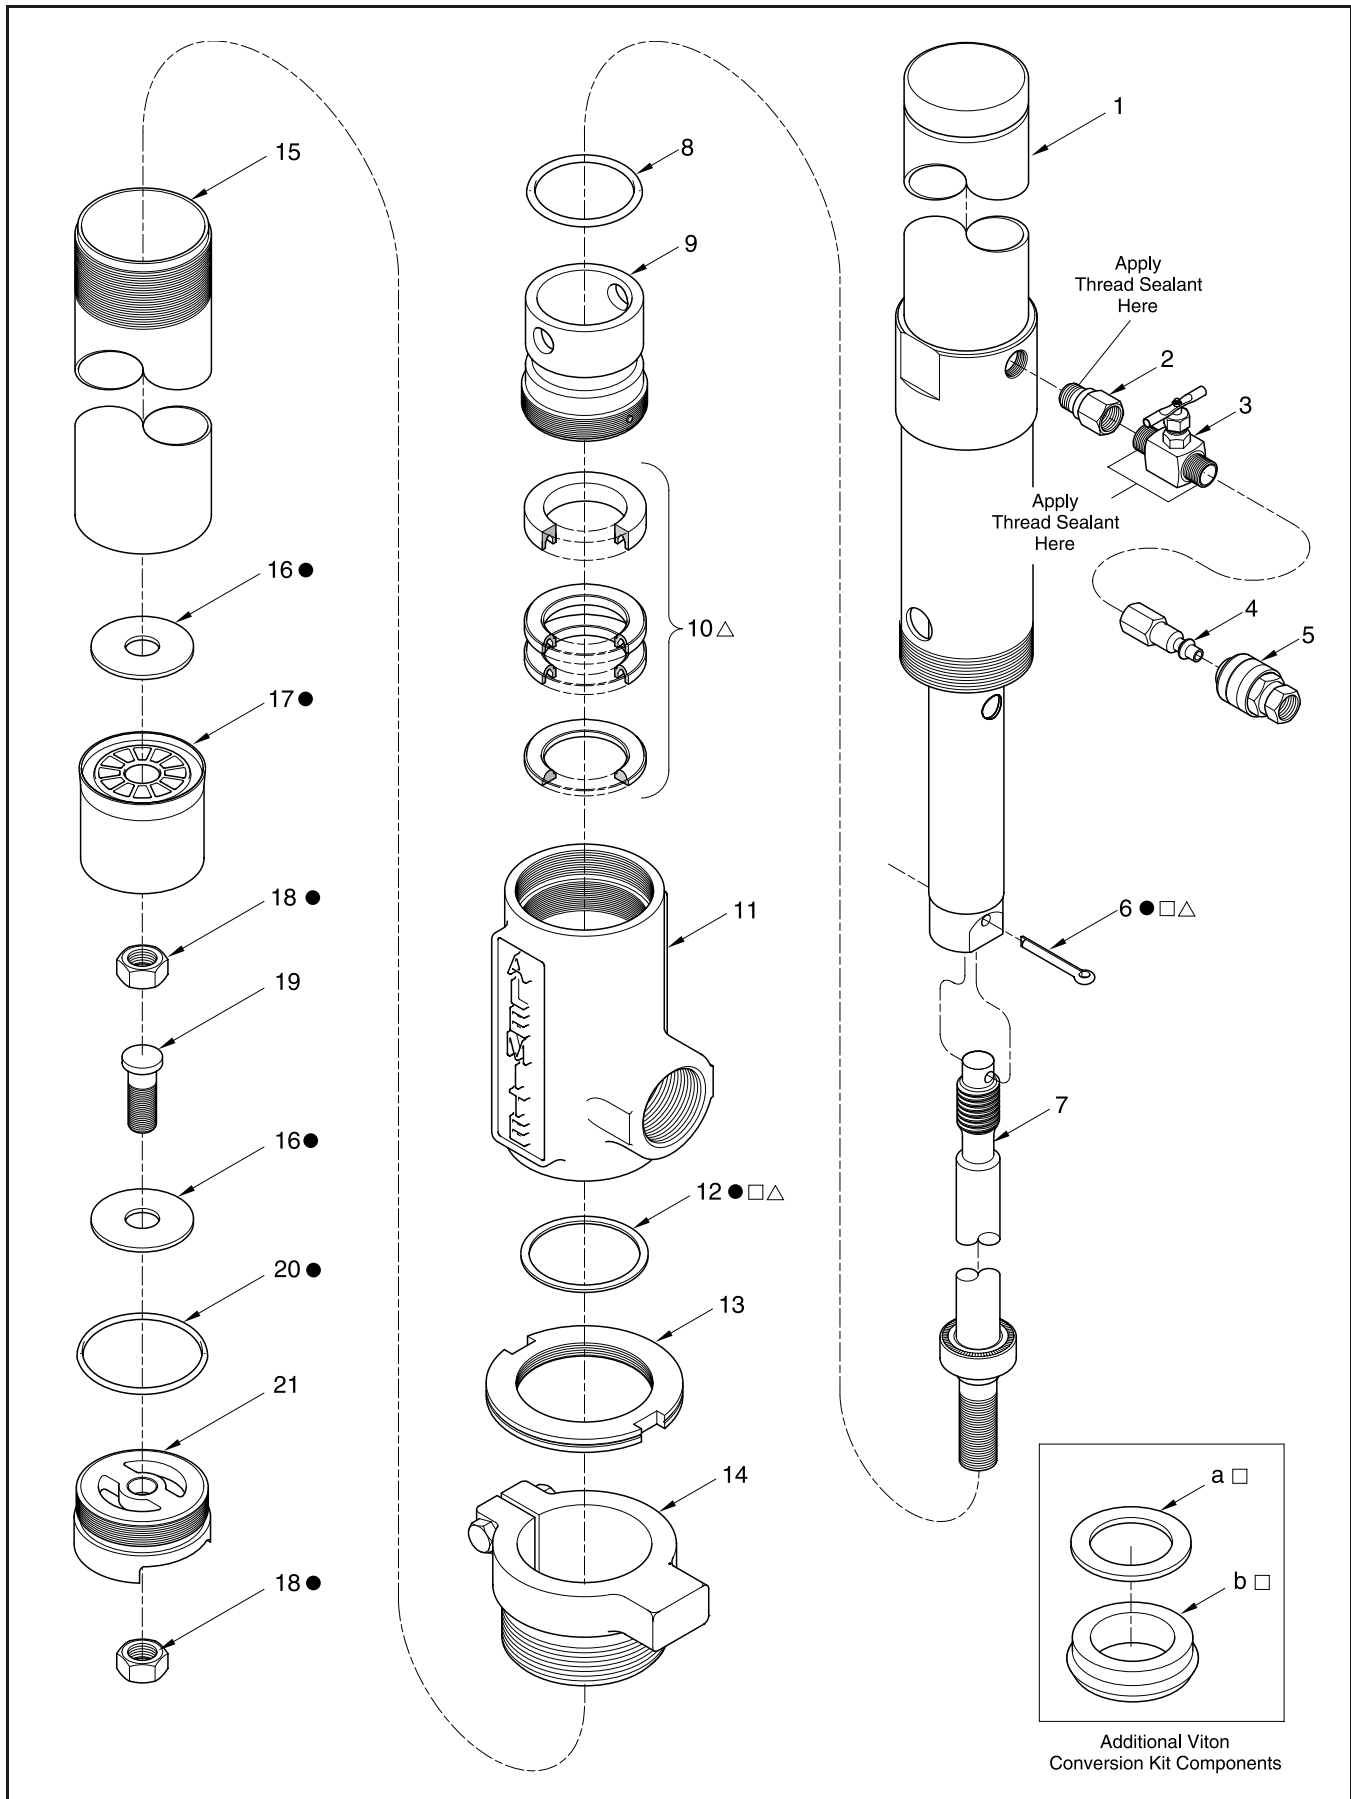

Figure 2 Transfer Pump Model 7216-4 - Exploded View
NOTE: Refer to **Figure 2** for component identification on all overhaul procedures.
1. Clamp Body (11) in a soft-jaw vise.
2. Install and seat Packing group (10) into the Body.
- See **Figure 2** and/or **5** for the proper sequence and orientation.
3. Install O-Ring (8) onto Bushing Assembly (9).